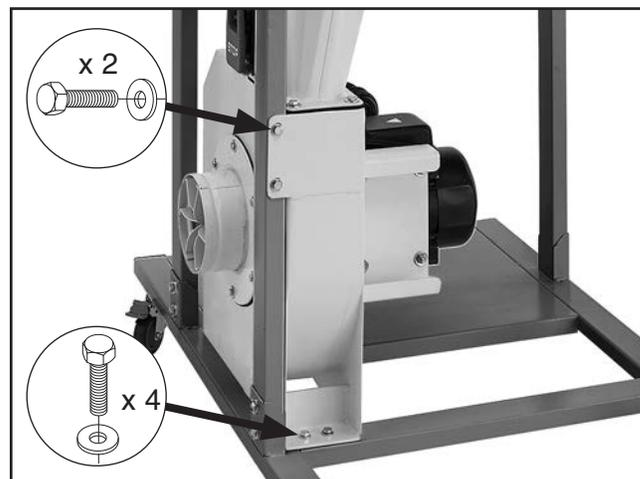

Figure 22. Motor/impeller housing attached to base stand and lower left front leg.
18. Attach motor/impeller housing using (4) $\frac{5}{16}$ "-18 x $\frac{3}{4}$ " hex bolts and (4) $\frac{5}{16}$ " fender washers on base stand, and (2) $\frac{5}{16}$ "-18 x $\frac{3}{4}$ " hex bolts and (2) $\frac{5}{16}$ " fender washers on lower left front leg (see **Figure 22**).